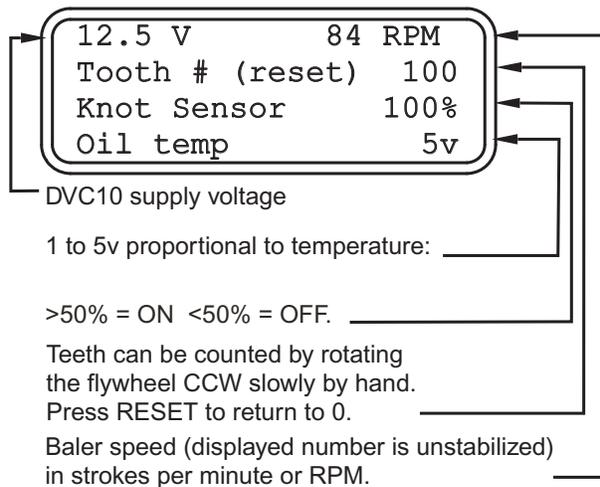

Figure 22 - Sensor Screen
- Sensor Trouble Shooting (see Figure 22)